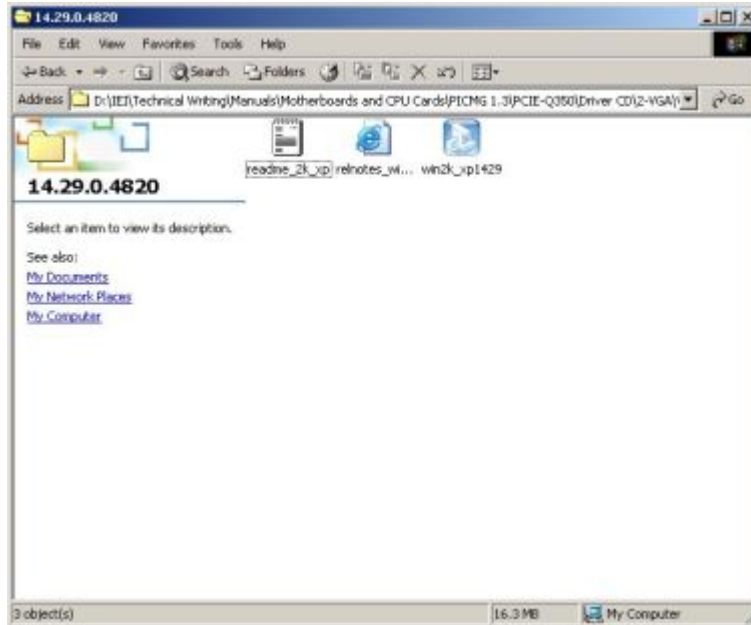

Figure 7-12: Intel® VGA Driver Setup Icon
Step 6: A new window appears. See **Figure 7-12**.
Step 7: Click on the VGA driver installation icon in See **Figure 7-12**.